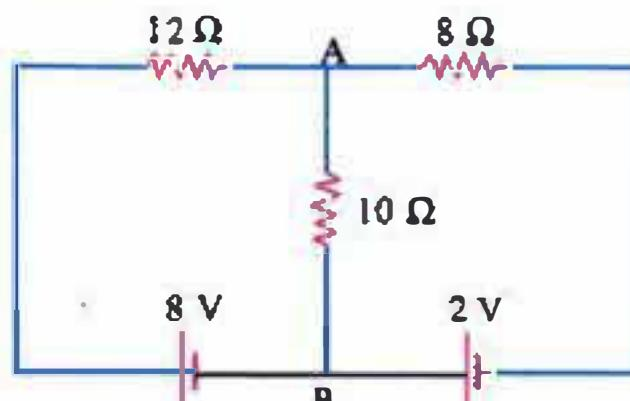

Fig. 3.5
1. Use Kirchhoff's laws to find the magnitude and direction of current flow through the  $10 \Omega$  resistor of Fig. 3.5. [1/23 A from A to B]